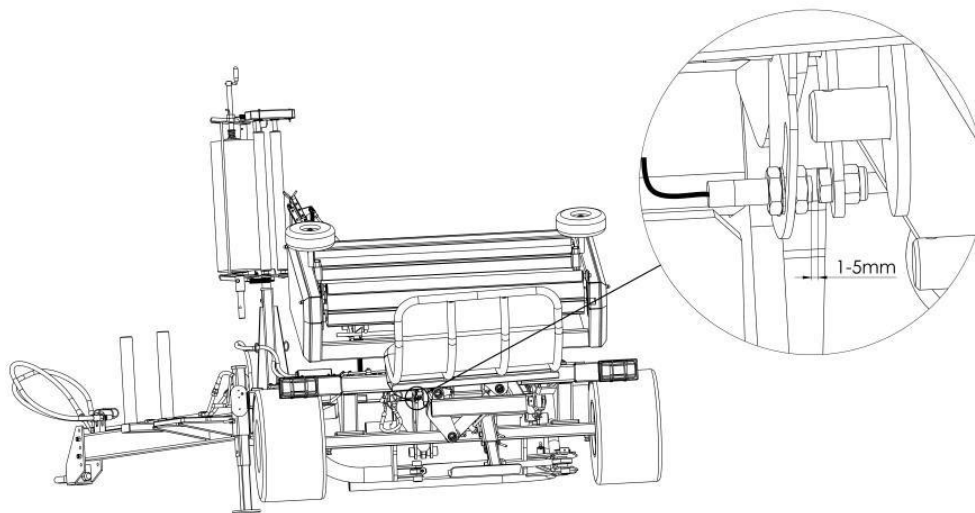

Fig. 12. Correcting the adjustment of the unloading position sensor on the bale on end kit's frame.
During automatic unloading, if the bale on end kit's frame stops after unloading position sensor (fig. item 8) reaches its activator on the frame, and then the cradle is automatically tipped, it means that the sensor is adjusted correctly. If not, it is necessary to correct the adjustment of the unloading position sensor on the bale on end kit's frame (Fig. 12). To do that: